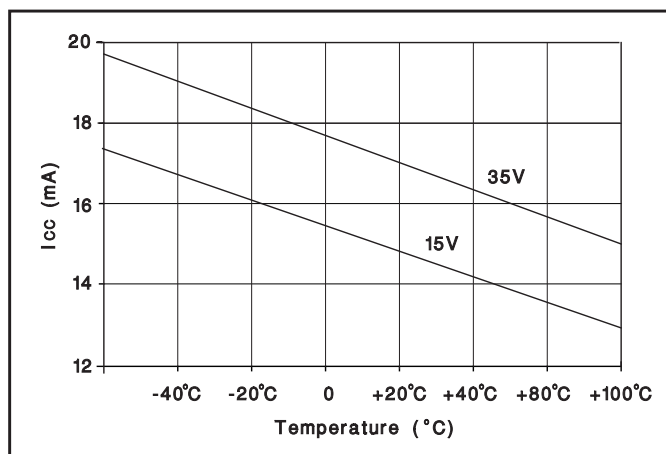

Figure 1.  $I_{CC}$  vs. temperature.
| $I_{\text{CC}}$ (run)                                       | (See Fig. 1)                                       |       | 13   | 19    | mA            |
**VCC:** The input voltage to the chip. The chip is operational between 7.5V and 40V and should be bypassed with a  $1\mu\text{F}$  capacitor. A typical  $I_{CC}$  vs. temperature is shown in Figure 1.